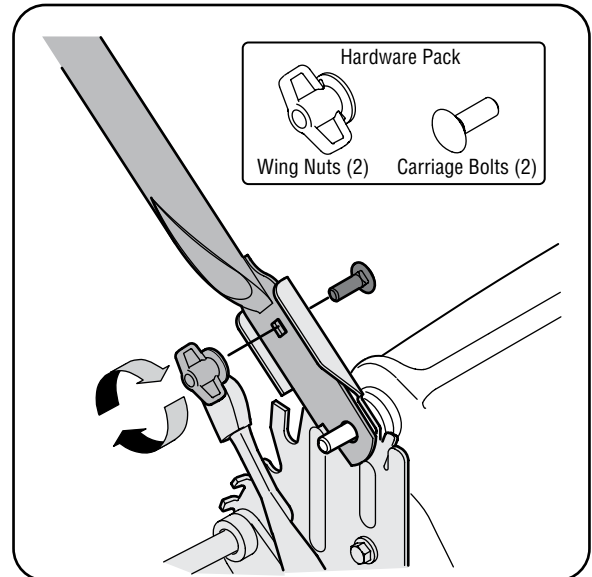

Figure 2: Attaching the lower handle to the mounting brackets using the wing nuts and bolts.
- a. Place ends of the lower handle onto the handle brackets, Figure 2.
- b. Secure using carriage bolts and wing nuts provided in the hardware pack, Figure 2.